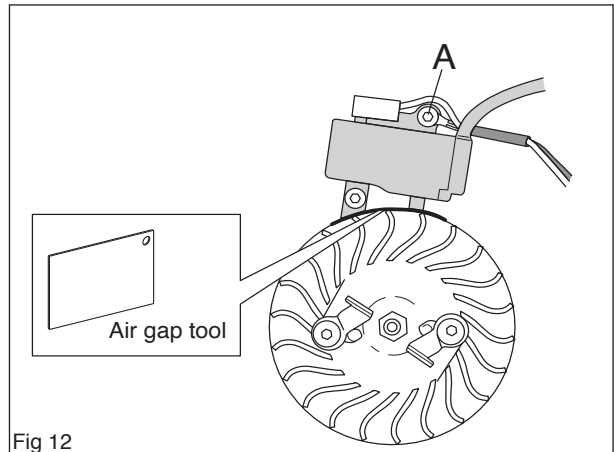

Fig 12
Turn the flywheel so that the magnets are in line with the ignition module. Fit the ignition module with the plastic feeler gauge (502 51 34- 02) held in position at the same time, without tightening the bolts. Fit the earth cable (black) (A). Set a distance of 0.3 +/- 0.1 mm, between the ignition module and magnet. The measurement applies to the two lowest lugs on the ignition module. Tighten the screws, tightening torque 4.5–6 Nm. Fit the blue cable on the ignition module. (see figure 12)